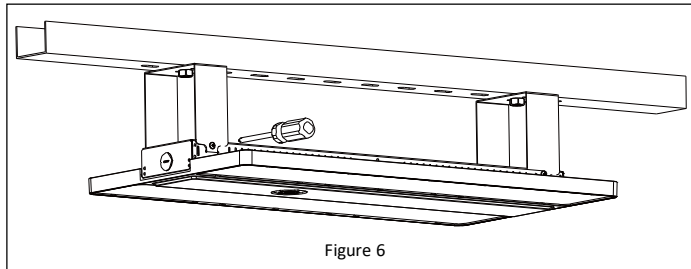

Figure 6
2. Assemble the fixture on the brackets and secure them with the supplied screws. *See Figure 6.*